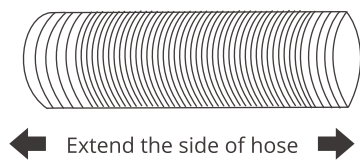
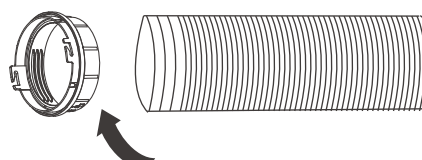

Fig.1
Fig.2
2. Extend either side of the hose (Fig.1), and screw the hose inlet (Fig.2).